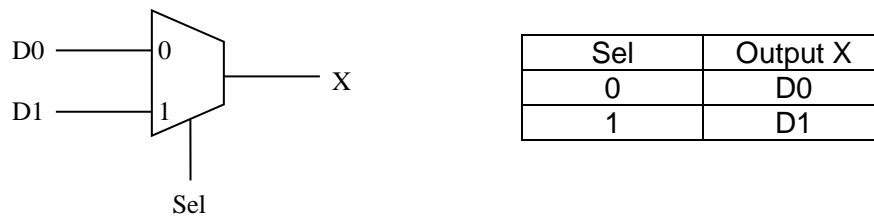

Figure 2: Logic symbol and truth table of a 2-input multiplexer
- 4.5 In this experiment, you may also make use of a 2-input multiplexer. Figure 2 shows its logic symbol and truth table. By controlling the logic input Sel, either the input D0 or the input D1 is directed to the output X at any time.